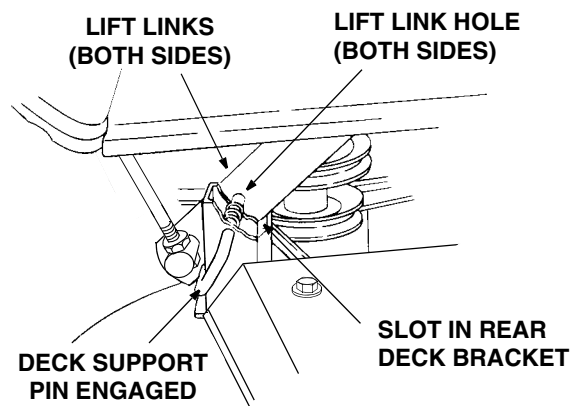

Figure 33
9. Carefully guide the tractor implement lift links (left and right) into the rear deck bracket slots (left and right) as the tractor implement lift handle is lowered to its lowest setting (Refer to Figure 33).
10. Pull both deck support pins outward and rotate rearward to disengage the outer surface of the rear deck brackets. Release the pins, making certain each deck support pin passes through the inner hole of the rear deck bracket. The spring tension will push the pins inward and, if aligned, through the hole in each implement lift link (Refer to Figure 33).